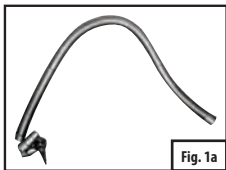

Fig. 1a - Low Pressure Hose & Adapters
- Your pump includes 2 hoses, with different valve adapters. Please familiarize yourself with these valve adapters before using your pump (see Fig. 1a, 1b & 2a, 2b below).
2. Choose the appropriate hose/adaptor for the inflation valve on your product (refer to Figs. 1a, 1b, 2a & 2b).